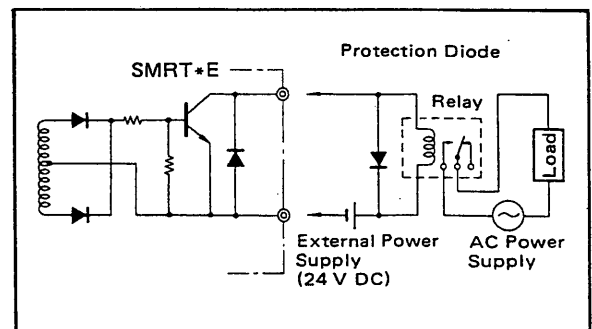

Figure 3-4. Connections for Switching an Alternating Current (AC) Load.
- Transistor contacts cannot be used directly to switch (open and close) alternating current (AC) loads. Relays (or similar devices) must be used between the transistor switch and the load. (See Figure 3-4).